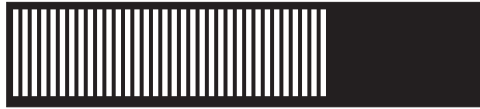

Figure 76. Hardware boot display
**Is the hardware boot display that you see in Figure 76 displayed on any of the SAN Volume Controller nodes?**
**Has the hardware boot display that you see in Figure 76 displayed for more than three minutes?**